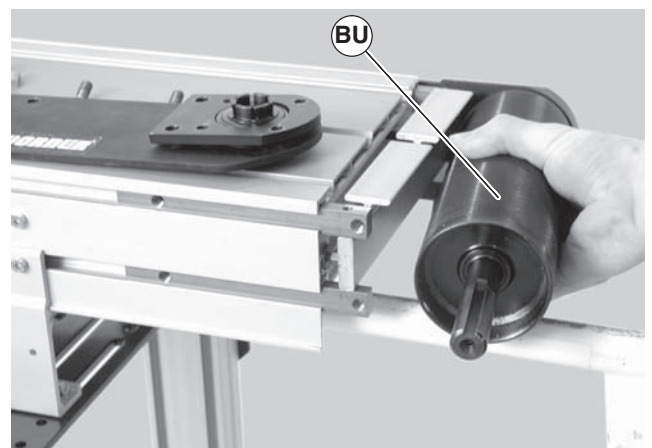

Figure 54
8. Slide the drive pulley (Figure 54, item BU) out of the headplate on the opposite side.